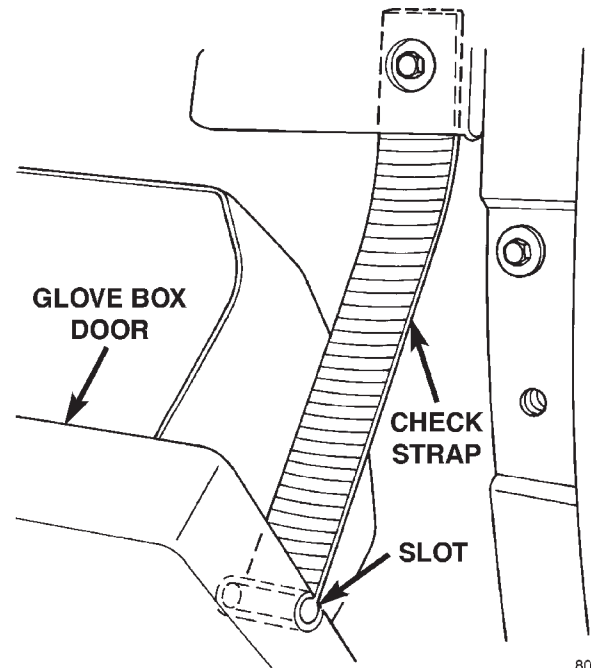

Fig. 15 Glove Box Remove/Install
(1) Disconnect and isolate the battery negative cable.
(2) Release the glove box latch and open the glove box door.
(3) While supporting the glove box door with one hand, grasp the check strap as close to the glove box door as possible and slide the rolled end of the check strap out of the slot in the edge of the door (Fig. 15).
(4) Lower the glove box door far enough to disengage the hinge hook formations on the lower edge of the door from the hinge pins on the lower edge of the instrument panel.
(5) Remove the glove box from the instrument panel.